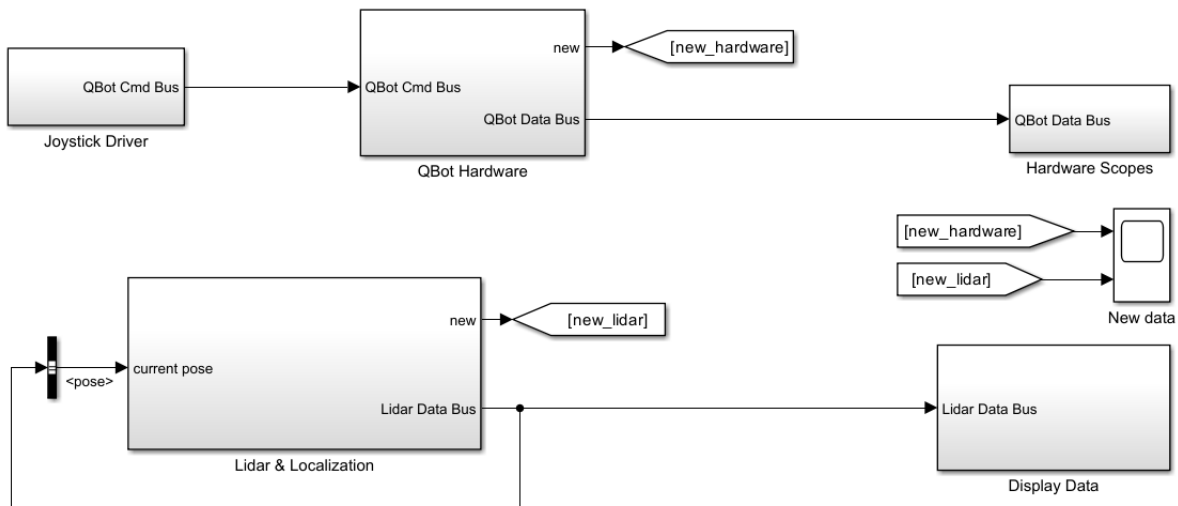

Figure 1: Localization Simulink Model
4. Open the Simulink Model localization.slx, as shown in Figure 1. Configure the model so that it can be deployed to the QBot Platform: